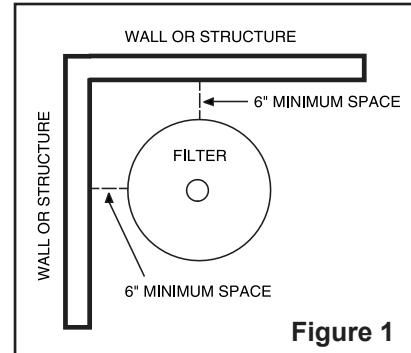

Figure 1
3. Allow sufficient clearance around the filter to permit visual verification that the clamp is properly installed around the tank flanges, see **Figure 1**.